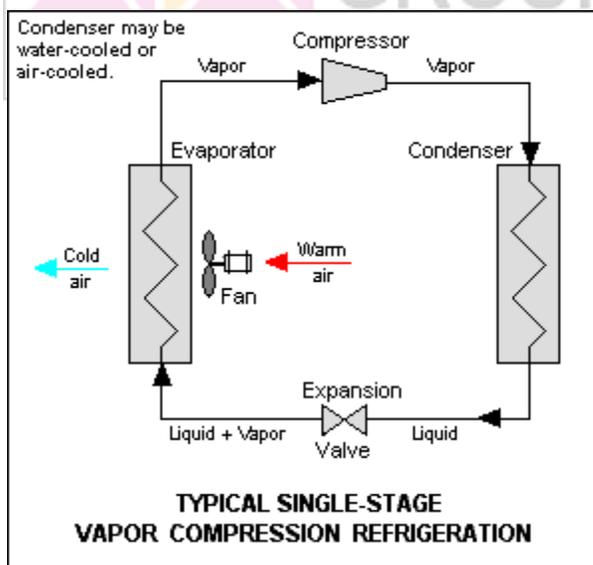

Figure 1: Vapor compression refrigeration
**Principle :** A refrigerator maintains a temperature a few degrees above the freezing point of water. Optimum temperature range for perishable food storage is 3 to 5 °C (37 to 41 °F). A similar device that maintains a temperature below the freezing point of water is called a **freezer**. The refrigerator replaced the icebox, which was a common household appliance for almost a century and a half prior advent of **refrigerator**. The vapor-compression cycle is used in most household refrigerators as well as in many large commercial and industrial refrigeration systems. Figure 1 provides a schematic diagram of the components of a typical vapor-compression refrigeration system.